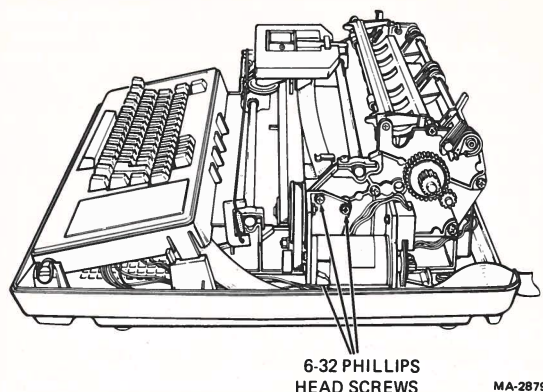

Figure 2-16 Servo Motor/Encoder Removal
6. Remove the three (6-32) Phillips-head screws securing the motor to the right side plate (Figure 2-16).